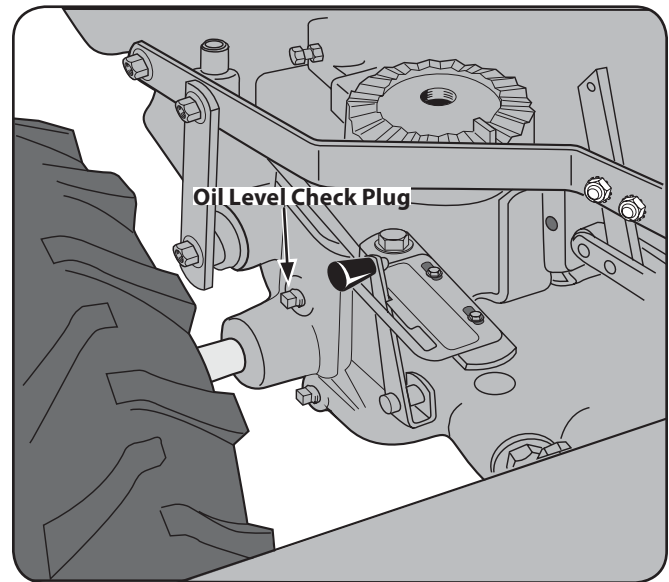

Figure 6-6
4. Use a $\frac{3}{8}$ " wrench to remove the oil level check plug on the left side of the transmission housing. See Fig. 6-6.
2. Remove the dipstick from the tine attachment. See Fig. 6-6.